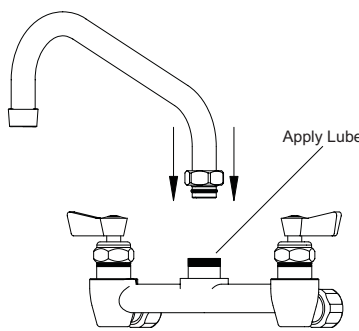

Fig.3 (Installation of new Swing Spout)
4. Lightly lubricate the inside area of the faucet body (see Fig.3), where the spout goes.Carefully align spout with faucet body so that when the spout slides into the faucet body, it will go in straight as not to cause the orings to bind and come of of the spout grooves. Firmly press the spout into the faucet body. Tighten spout nut firmly, with a wrench.